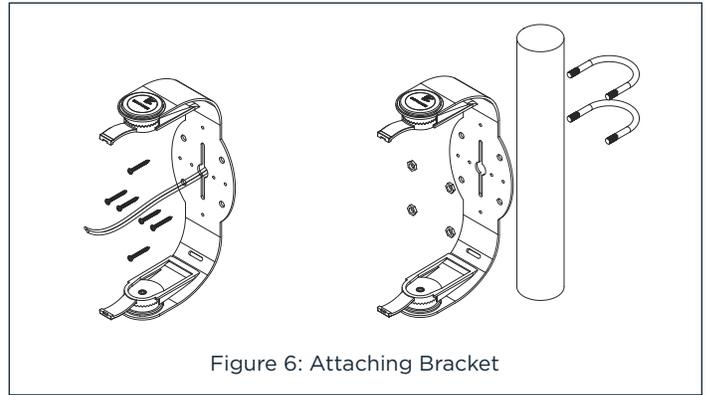

Figure 6: Attaching Bracket
- In most cases you will be able to attach the FastMount brackets directly to the mounting surface. Run the speaker wires from the amplifier to the speaker locations and through the holes in the brackets (see Figure 6).
- If the installation requires that the speaker be mounted on a pole you can attach the FastMount brackets to the pole using 2.5" U-bolts (not included) (see Figure 6).